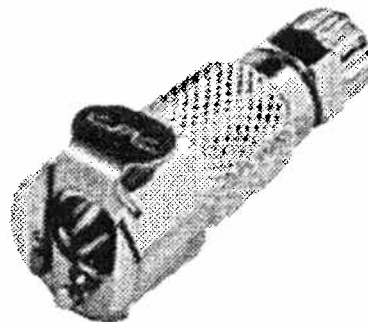

Fig 5.11-2
5. Remove the quick disconnect fitting p/n 1052048 (See *Fig 5.11-2*) at the end of this line.